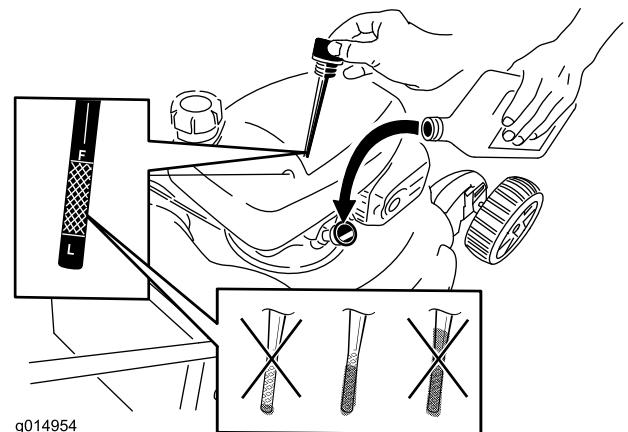

Figure 41
2. Remove the dipstick (Figure 41).
4. **Slowly** pour oil into the oil fill tube until the oil level reaches the **Full** line on the dipstick (Figure 41). **Do not overfill.** (Max. fill: 20 oz., type: SAE 30 detergent oil with an API service classification of SF, SG, SH, SJ, SL, or higher.)